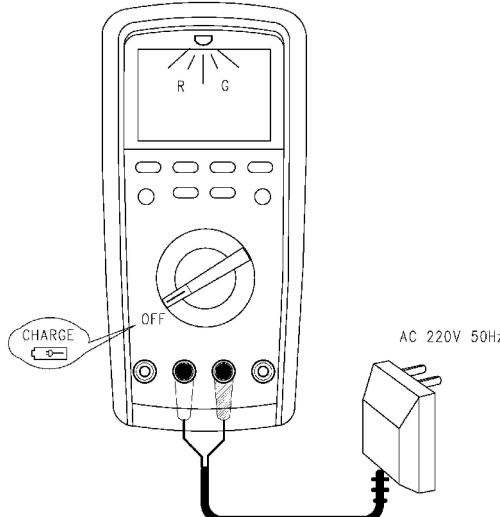

Figure 14
- \* Charging internal lithium battery: (see Figure 14) (applicable to UT171B/C only) connect the charging adapter provided for accessories in accordance with the figure, to charge the internal lithium battery. In the mode of charging, a red indicator alert will be emitted on top of the instrument, which turns green when the charging voltage reaches the full value, and then the instrument will automatically cut off the charging circuit as prompt for the completion of the charging.